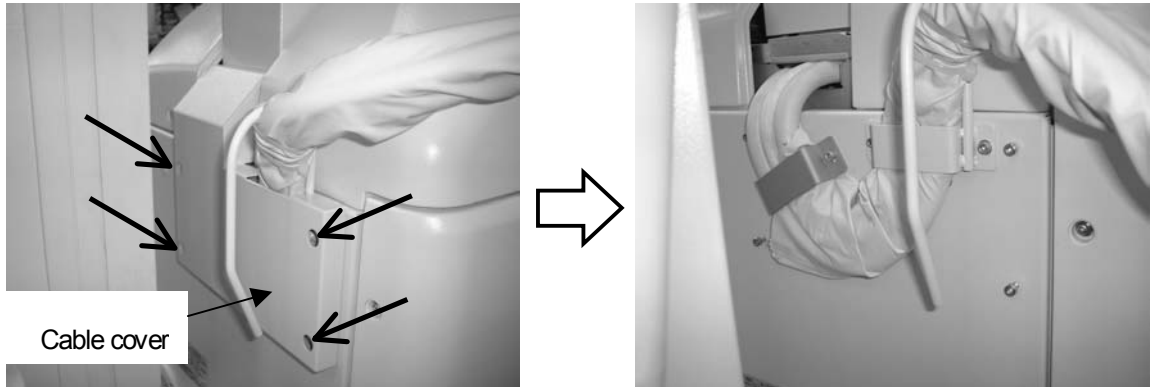

Fig. 6-8 Screw clamp positions of the cable cover
1. Unscrew the two hexagon socket head cap screws as shown in Fig.6-8.